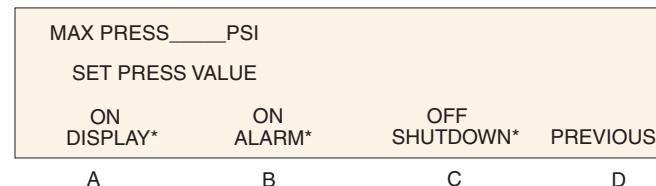

Figure 3-10 Limits setpoint (Max Press) menu
1. Press LIMITS. To display the Limits menu, enter the number of the limit you wish to program. One of five limit set-point menus will appear: MAX PRESS, MIN PRESS, MAX FLOW, MIN FLOW, or FLOW LIMIT. The MAX PRESS limit setpoint menu is shown in Figure 3-10.